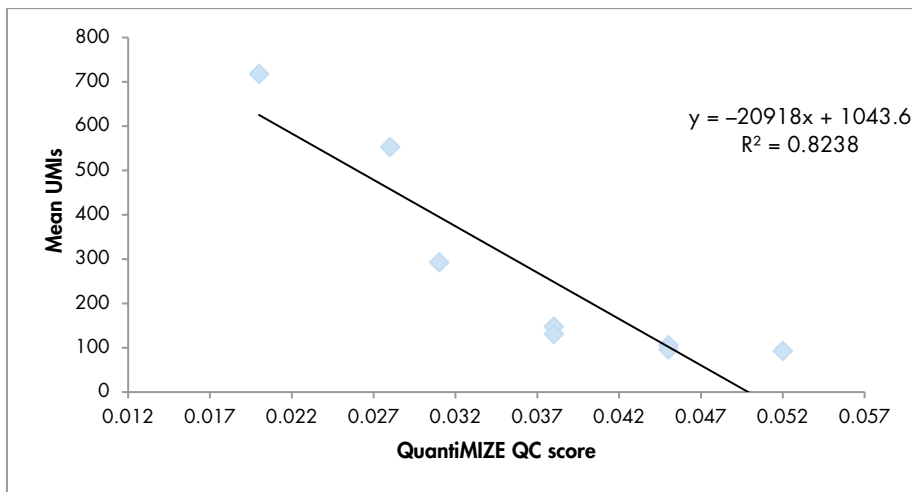

Figure 8. Correlation between QIAseq QuantiMIZE QC score and the number of UMIs.
The QIAseq DNA QuantiMIZE System is recommended for determining FFPE DNA input for the QIAseq Targeted DNA Panels. If FFPE DNA is defined as high quality (quality control (QC) score ≤ 0.04) by QuantiMIZE, then 100 ng of DNA can be used. If the DNA is determined as low quality (QC score > 0.04), then 250 ng of DNA can be used. The QC score of QuantiMIZE reflects the amount of amplifiable DNA present in the sample, therefore correlating with the number of UMIs that can be sequenced in the library (Figure 8, next page).